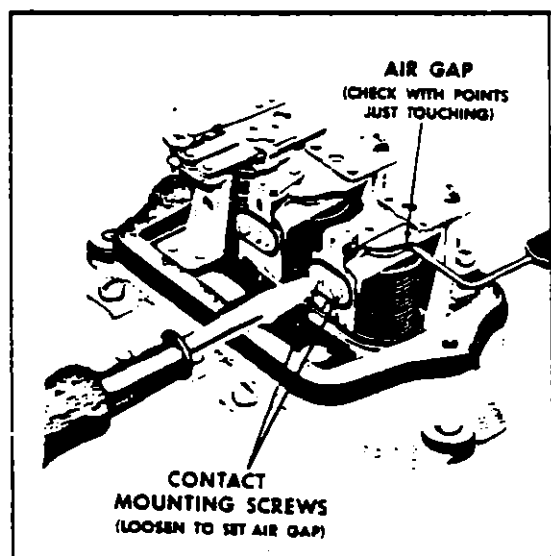

FIGURE 9-5. VOLTAGE REGULATOR AIR GAP CHECK AND ADJUSTMENT
a. Air Gap - To check air gap, push armature down until the contact points are just touching and then measure air gap (Figure 9-5). Adjust by loosening the contact mounting screws and raising or lowering contact bracket as required. Be sure the points are lined up and tighten screws after adjustment.